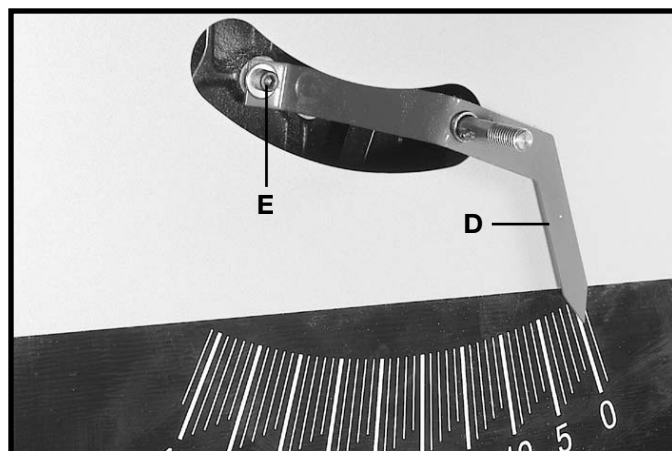

Fig. 100
6. Adjust the pointer (D) Fig. 100 to point to the zero degree mark on the scale by loosening screw (E), adjusting pointer (D), and tightening screw (E).